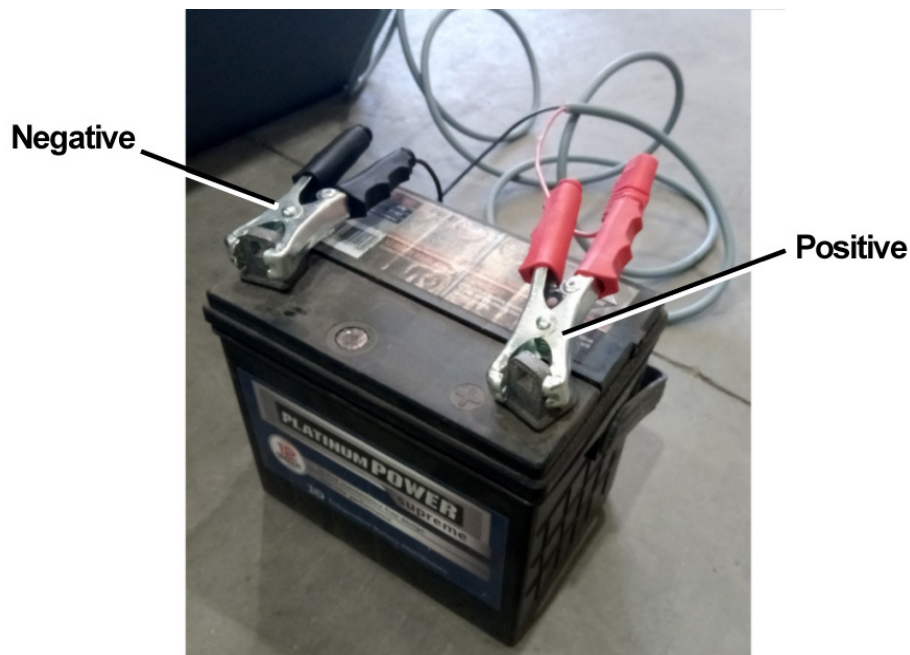

Figure 5 – Battery Connection – Electric Pump
- Uncoil and connect the pump's electrical cable's alligator clips to the power supply, ensuring each clip is connected to the correct terminal – black clip to NEGATIVE, red clip to POSITIVE, refer to Figure 5.